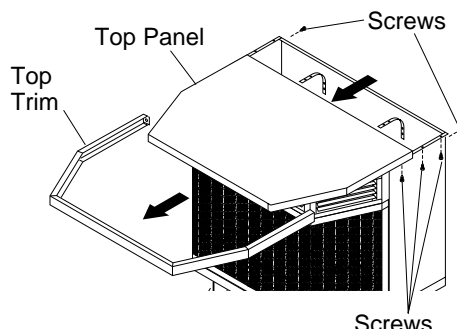

Figure 12 - Removing Stove Top Panel
1. Remove 2 screws from rear tabs on top trim. Pull trim forward to remove (see Figure 12).
2. Remove top panel of stove by removing three screws from under top lip on each side of stove (see Figure 12).
3. Facing front of stove, carefully slide top panel forward until it is completely removed from stove (see Figure 12).
1. Remove 2 screws from rear tabs on top trim. Pull trim forward to remove (see Figure 12, page 10).
2. Remove three screws from under top lip on each side of stove to remove top panel (see Figure 12, page 10).
3. Facing front of stove, carefully slide top panel forward until it is completely removed from stove (see Figure 12, page 10).